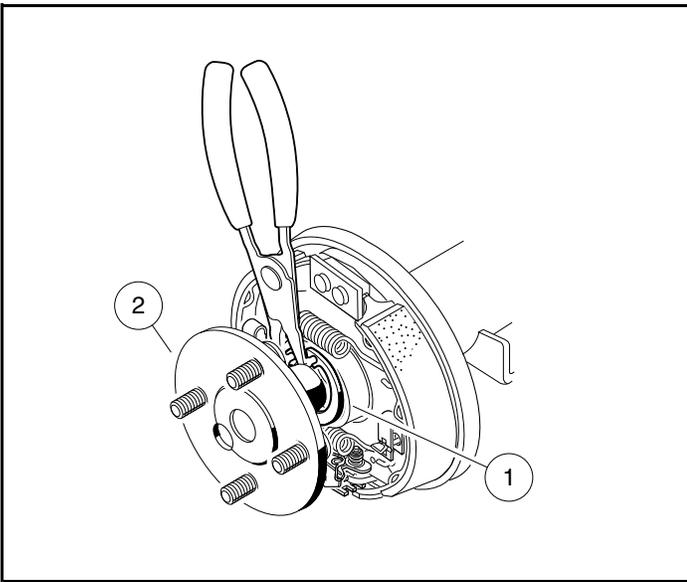

Figure 28-1 Remove Internal Retaining Ring
4. Use 90° internal snap ring pliers to remove the internal retaining ring (1) from the axle tube (**Figure 28-1, Page 28-2**).
5. Remove the axle (2), retaining ring, and bearing assembly by pulling the axle straight out of the housing.